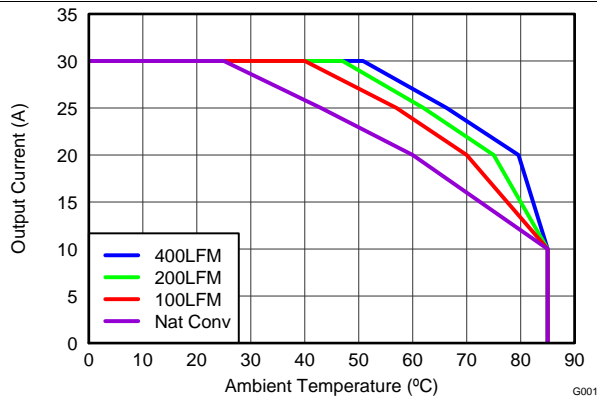
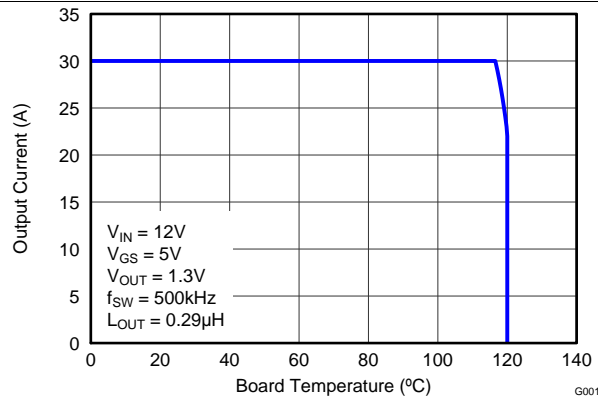

Figure 3. Safe Operating Area – PCB Horizontal Mount
Figure 4. Typical Safe Operating Area
$T_J = 125^{\circ}\text{C}$, unless stated otherwise. For Figure 3 and Figure 4, the Typical Power Block System Characteristic curves are based on measurements made on a PCB design with dimensions of 4.0 inches (W) \times 3.5 inches (L) \times 0.062 inch (H) and 6 copper layers of 1 oz. copper thickness. See Application and Implementation for detailed explanation.
$T_J = 125^\circ\text{C}$, unless stated otherwise. For Figure 3 and Figure 4, the Typical Power Block System Characteristic curves are based on measurements made on a PCB design with dimensions of 4.0 inches (W) \times 3.5 inches (L) \times 0.062 inch (H) and 6 copper layers of 1 oz. copper thickness. See Application and Implementation for detailed explanation.
The SOA curves in the CSD87384M data sheet provide guidance on the temperature boundaries within an operating system by incorporating the thermal resistance and system power loss. Figure 3 to Figure 4 outline the temperature and airflow conditions required for a given load current. The area under the curve dictates the safe operating area. All the curves are based on measurements made on a PCB design with dimensions of 4 inches (W) × 3.5 inches (L) × 0.062 inch (T) and 6 copper layers of 1 oz. copper thickness.